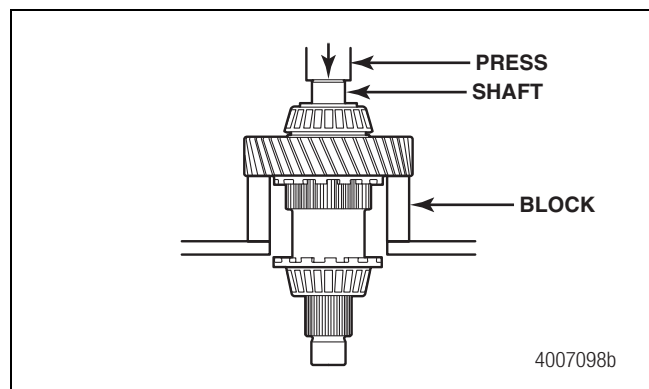

Figure 4.20
4. Prepare the shaft for bearing and gear removal. Install the front output shaft into a press with the rear of the output shaft facing UP. Support the shaft correctly. Figure 4.20.